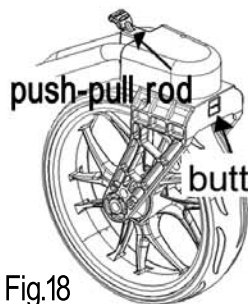

Fig.18
1.Pull the rod as fig.18 to lock the wheel to go straight; push the rod to release the wheel for swivel. Press the button to take off the front wheel.